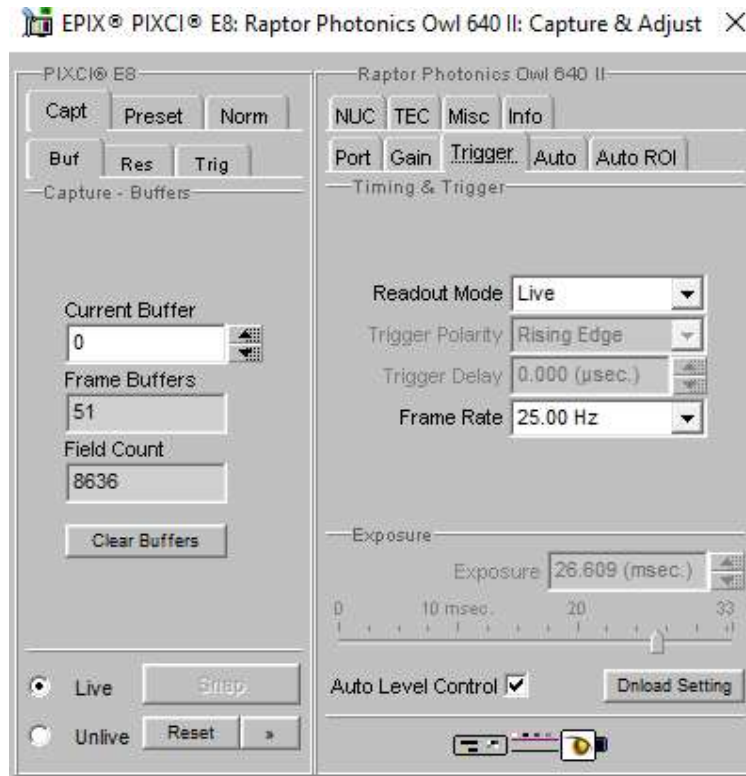

Figure 11: Trigger Mode and Frame Rate.
**Trigger Mode:** The trigger mode of the camera and additional trigger controls can be controlled from the “*Trigger*” tab in the GUI, shown in Figure 11.